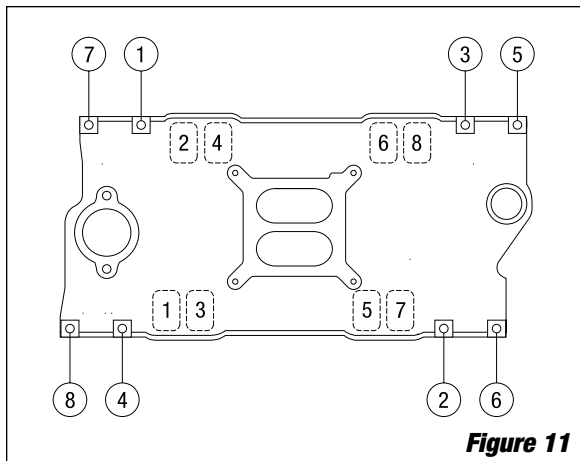

Figure 11
6. For 1986 and earlier applications, install the top plate to intake manifold bolts and torque bolts to 8-10 ft./lbs. On E-Tec/Vortec applications, install the top plate to manifold bolts and snug down with a small box end wrench. You may now install the remaining four (4) intake manifold bolts (that pass through the top plate) and tighten all of the manifold bolts to 11 ft./lbs by the sequence shown in **Figure 11**. Then torque the remaining top plate to manifold bolts to 8-10 ft./lbs. Tighten bolts in a criss-cross pattern, starting in the center and working outward.